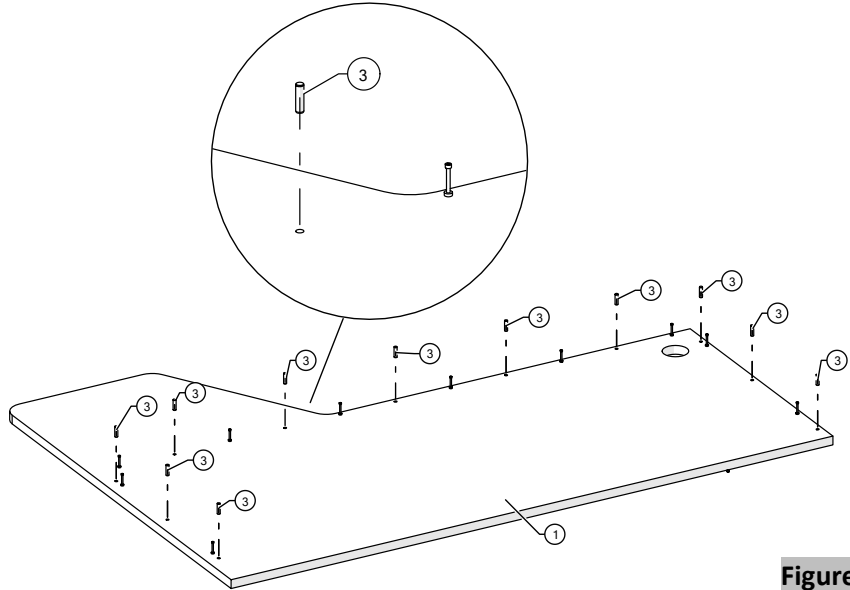

Figure 3
3. Push the wooden dowels into the pre-drilled 8 mm holes of the worksurface and then lightly tap with a rubber mallet to hold them firmly (Figure 3).